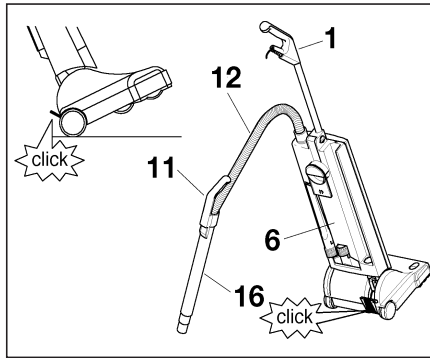

Figure 1
Using the Attachments Tube, Hose & Attachments - Figures 1 & 2
The attachment tube (16) is useful for vacuuming corners and hard-to-reach areas. The handle grip (1) should be in the upright, locked position (**as shown in figure 1**). Grip the attachment tube handle (11), pull it up and away from the machine and stretch out the hose (12) until it locks (this locking action will prevent the hose from retracting back into the attachment tube while it is in use). Various attachments may be inserted onto the end of the tube.